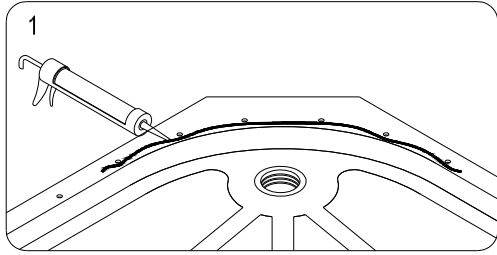

Fig 5
6. Move the **Tray (06)** to the assemble area. Be advised assemble area must to be as close to the installation area as possible to make the movement of the assembled cabin easy. Apply silicone sealant along the holes on the tray. Connect the **Back panel (02)** and the tray with **Bolt M6x25 (22)**. See Fig 5 and Fig 6 for details.